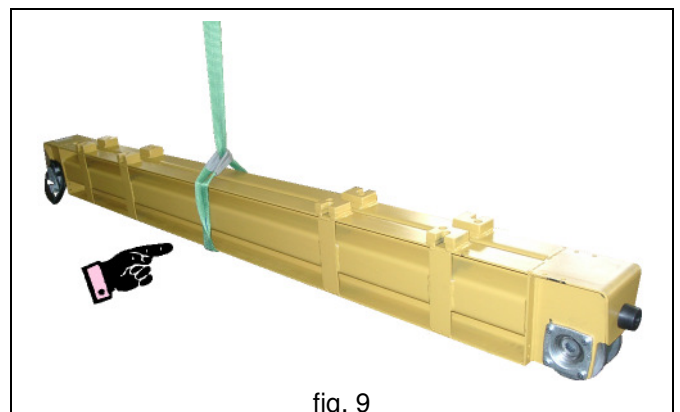

fig. 9
1. The **beam girders** can be handled using a fork lift or lifting machinery (a bridge or jib crane, etc.) equipped with suitable straps fitted like a “noose”. Lifting equipment adopted must be selected in relation to the mass indicated on the packaging and employed so as to ensure proper balancing. (fig. 9).